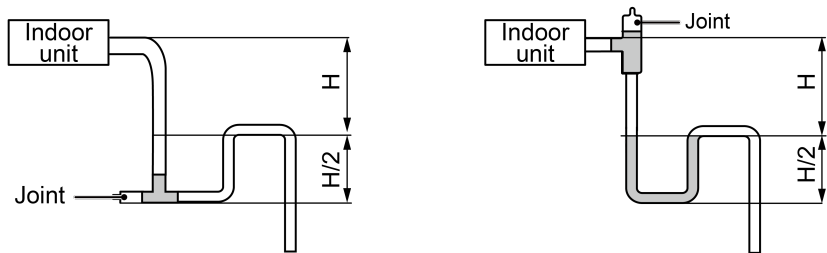

Fig 4.12
- (5) For indoor units that have high pressure at the outlet of drain pipe, use water-sealed joint.
- (6) For indoor units that have high pressure at the outlet of drain pipe, use water-sealed joint.
- (7) Install the water-sealed joint according to Fig 4.12.
(8) Each unit should be installed with one water-sealed joint.